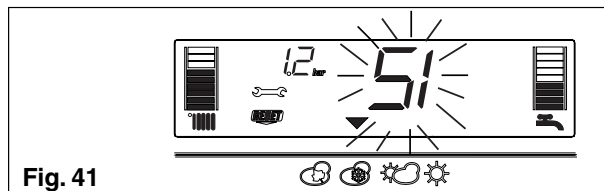

Fig. 41
3) Viewing the and symbols (fig. 41)